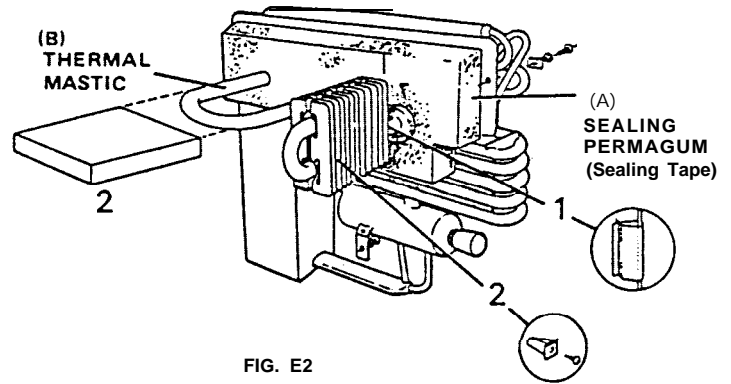

FIG. E2
4. Pull cooling unit part way out and then disconnect thermostat capillary tube and pull out (1; FIG. E2).
6. Remove evaporator fins and shelf (2; FIG. E2).
1. Apply thermal mastic on the evaporator coil (B; FIG. E2).
2. Install evaporator fins and shelf (FIG. E2).
3. Apply sealing permagum (sealing tape) on window insulation (A; FIG. E2).
4. Reinstall capillary tube into proper position (FIG. E2).